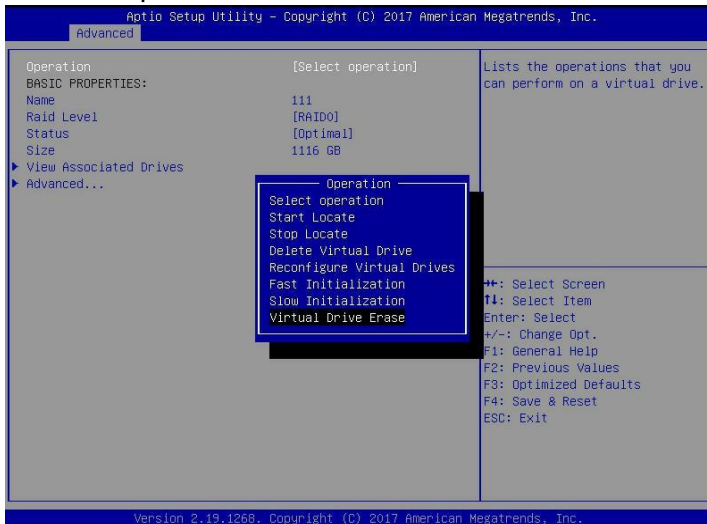

Figure 6-86
c) Enter the interface shown in Figure 6-86, select Operation, press Enter, and then select Virtual Drive Erase in the pop-up dialog box, and press Enter.
❖ Figure 6-86 Operation interface